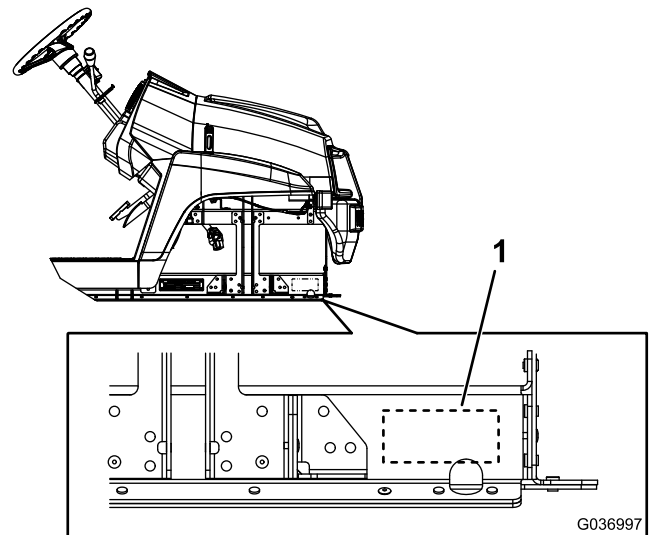

Figure 10
2. Stamp the serial number on the machine in the location shown in Figure 10.